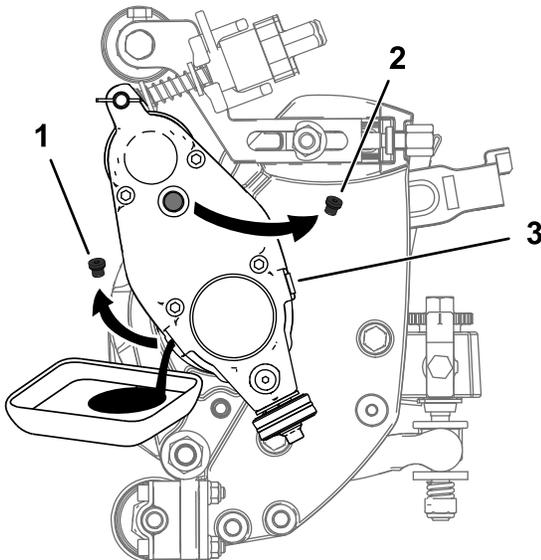

Figure 26
5. Tip the cutting unit vertically until the drain port is at the bottom to ensure complete drainage (Figure 26).